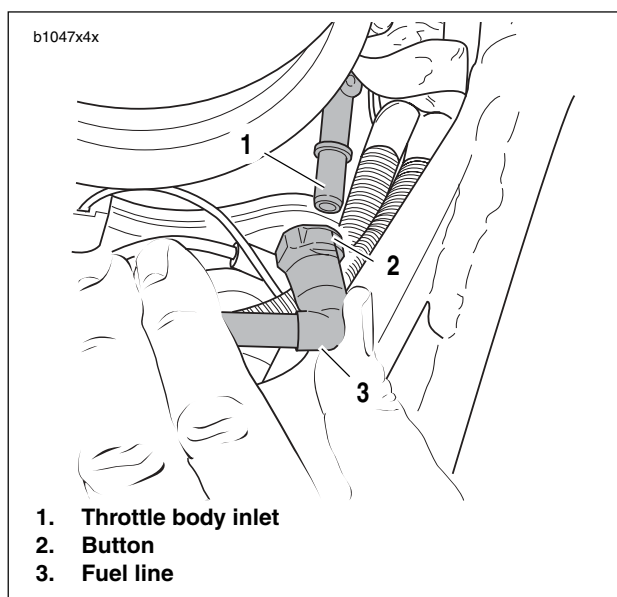

Figure 4-26. Fuel Line
3. See Figure 4-26. Depress button (2) of fuel line connector and disconnect the fuel line (3) from throttle body inlet (1).